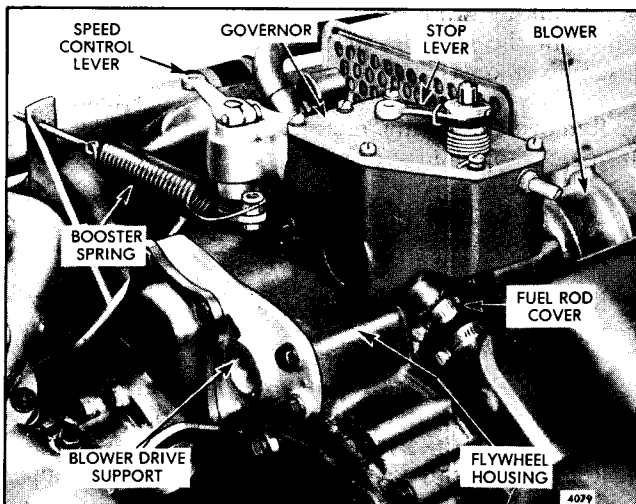

Fig. 1 - Governor Mounting
4. Mount the fuel pump, coupling and gasket on the governor housing (Fig. 1), turning the pump shaft until the coupling engages the drive end of the governor operating shaft. Secure the pump to the governor with three $5/16"$ - $18 \times 7/8"$ bolts.
The variable speed mechanical governor, illustrated in Fig. 1, performs the following functions:
1. Disconnect the throttle control rod and the booster spring from the speed control lever (Fig. 1).